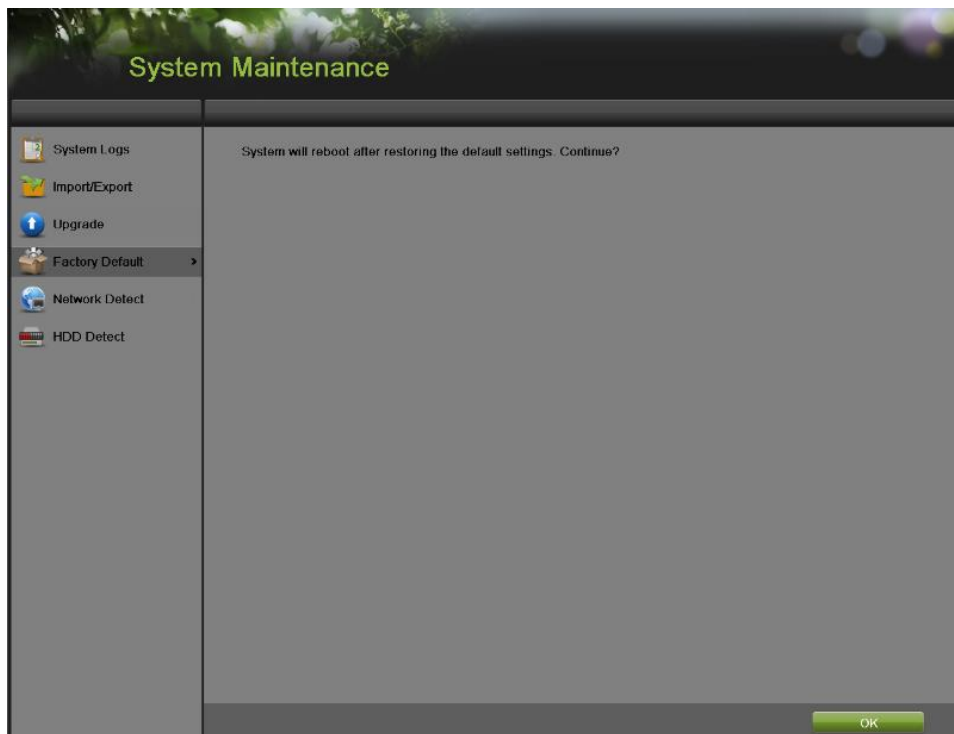

Figure 214 Factory Default Menu
1. Enter the Factory Default menu, shown in **Figure 214** by going to Menu > Maintenance > Factory Default.